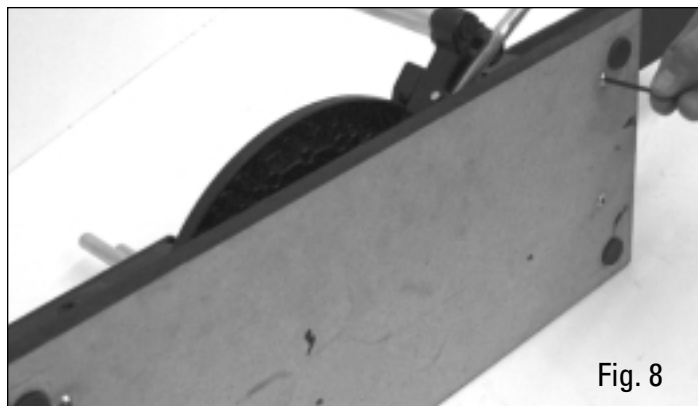

Fig. 8
- a. Turn saw base over and install base board. Be sure holes for rods are located toward back of saw base (Fig. 8).